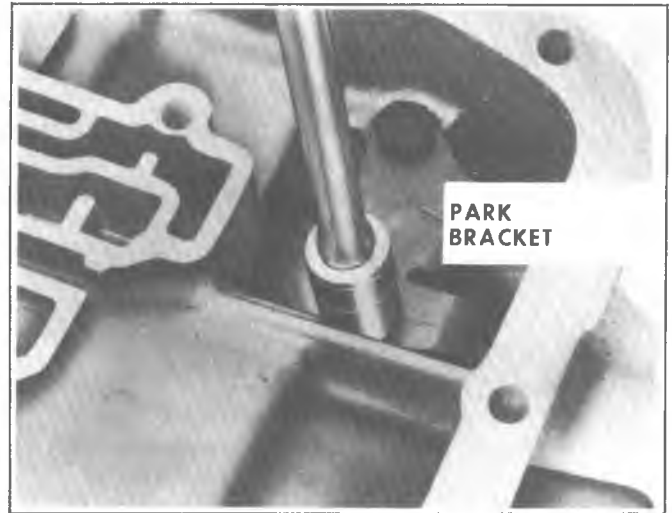

Fig. 7A-45A--Removing Parking Pawl Bracket Bolt
- a. Remove hex nut which holds inside detent lever to manual shaft (Fig. 7A-42A).